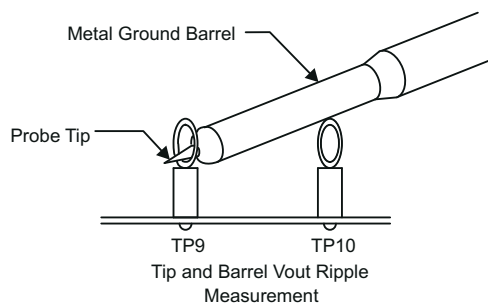
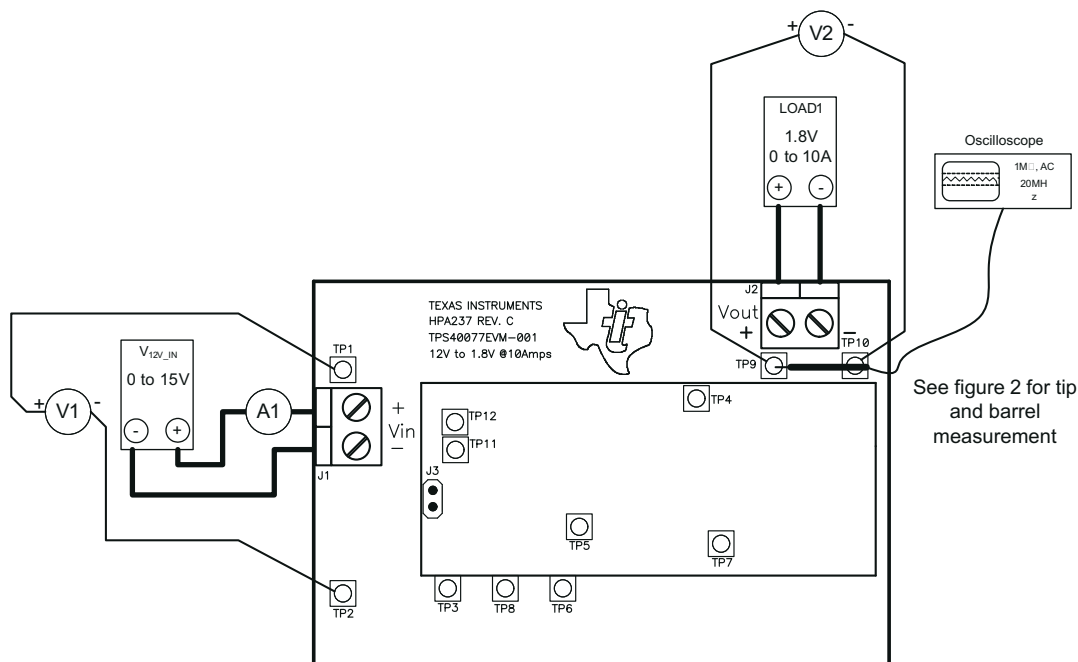

Figure 3-2. Output Ripple Measurement – Tip and Barrel Using TP9 and TP10
Figure 3-3. TPS40077EVM-001 Recommended Test Setup
The input voltage source (V_{12V_IN}) should be a 0-V to 16-V variable DC source capable of 5 A_{DC}. Connect V_{12V_IN} to J1 as shown in Figure 3-3.
TP9 and TP10 can be used to measure the output ripple voltage by placing the oscilloscope probe tip through TP9 and holding the ground barrel to TP10 as shown in Figure 3-2. For a hands-free approach, the loop in TP10 can be cut and opened to cradle the probe barrel. Using a leaded ground connection must be avoided because it induces additional noise due to its large ground-loop area.
Figure 3-3 shows the basic recommended test set up to evaluate the TPS40077EVM-001. Note that although the return for J1 and J2 are the same, the connections should remain separate as shown in Figure 3-2.
2. Prior to connecting the DC input source, V_{12V_IN} , it is advisable to limit the source current from V_{12V_IN} to 5.0-A maximum. Make sure V_{12V_IN} is initially set to 0 V and connected as shown in Figure 3-3.
3. Connect an Ammeter A1 as shown in Figure 3-3.
4. Connect Voltmeter V1 to TP1 and TP2 as shown in Figure 3-3.
5. Connect LOAD1 to J2 as shown in Figure 3-3. Set LOAD1 to constant current mode to sink 0 A DC before V_{12V_IN} is applied.
6. Connect Voltmeter V2 to Output J2 as shown in Figure 3-3.
7. Connect an oscilloscope probe to TP9 and TP10 as shown in Figure 3-2.